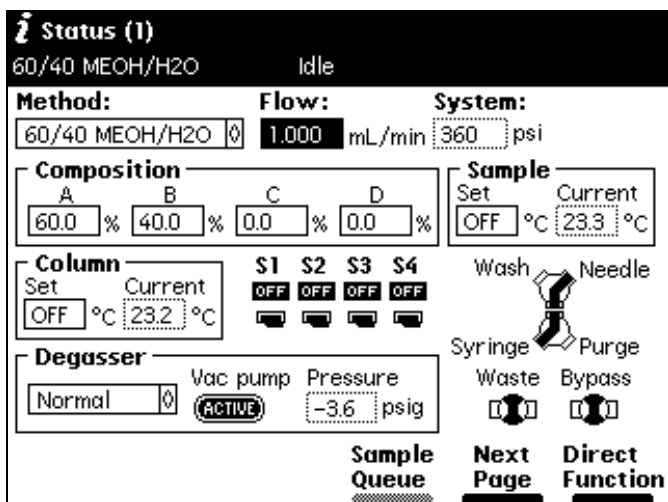

Figure 4-16 First Page of Status Screen (Example)
1. Press **Menu/Status** to display the Status screen (Figure 4-16).
Use the 2795 Separations Module Status screen to monitor the status of your HPLC or LC/MS system during a run. Press **Menu/Status** to display the first page of the Status screen (Figure 4-16). Press the **Next Page** screen key to display the second page of the Status screen (Figure 4-17).